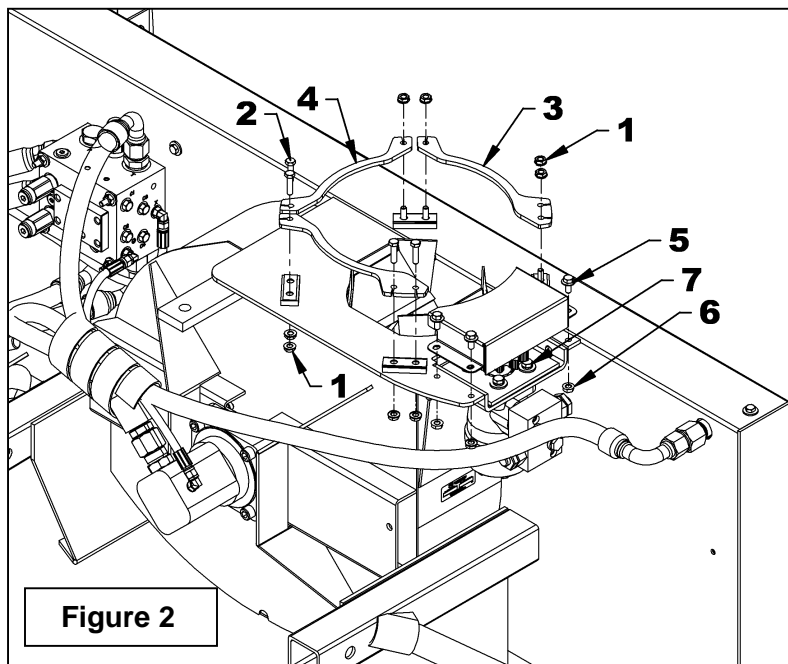

Figure 2
(Figures 2 to 5)
1. **Figure 2:** Remove the eight 5/16" NC serrated flange nuts (item 1), the eight 5/16" NC x 1 1/4" lg. bolts (item 2) and the three retaining plates (items 3-4).
2. **Figure 2:** Remove the three 5/16" NC x 3/4" serrated flange bolts (item 5), the three 5/16" serrated flange nuts (item 6) and unscrew slightly the four bolts of the hydraulic motor (item 7).